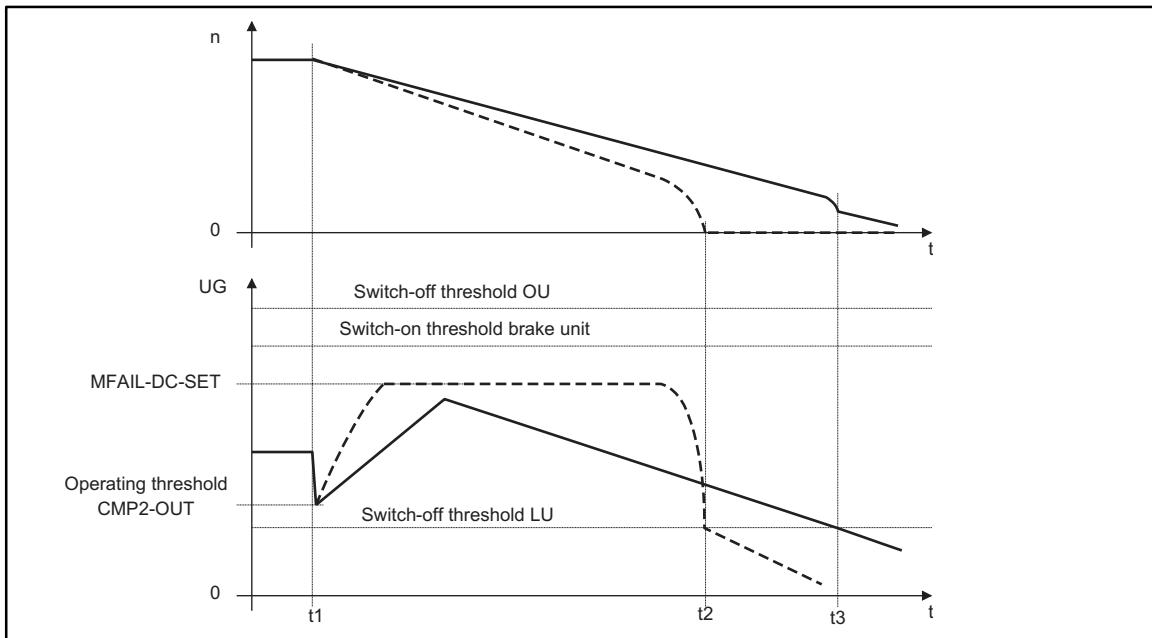

Abb. 7-122
3. Increase of the deceleration time or reduction of the brake torque (see Abb. 7-122) is only possible with restrictions: